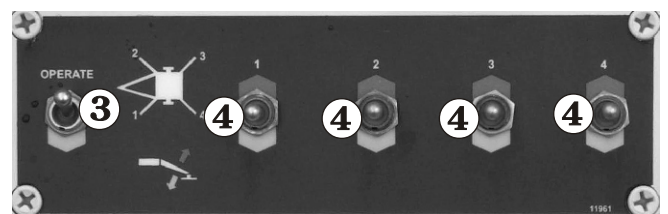

Figure 8.7
3. Hold switch ③ 'ON' (down) while each individual switch ④ is pushed down, one at a time, (see Figure 8.7) until all four stabiliser pads contact the ground ensuring that the front stabilisers are lowered first to prevent damage to the jockey wheel.
Hold switch ③ 'ON' (down) while each individual switch ④ (see Figure 8.7) is pushed upward, one at a time, until all four stabilisers are completely up in their stowed position.